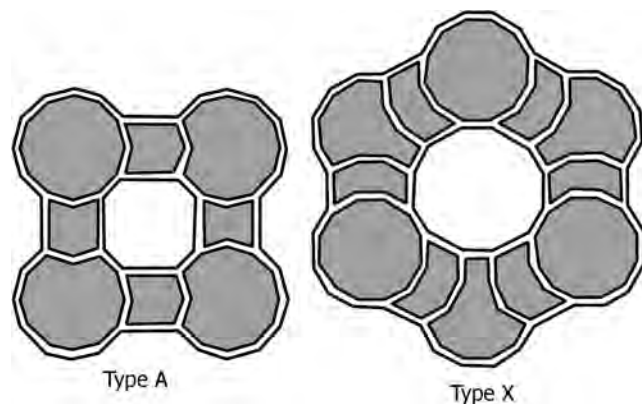

FIGURE 18.36 A and X type zeolites.
- Figure 18.36 shows the structures of Type A and Type X adsorbents.